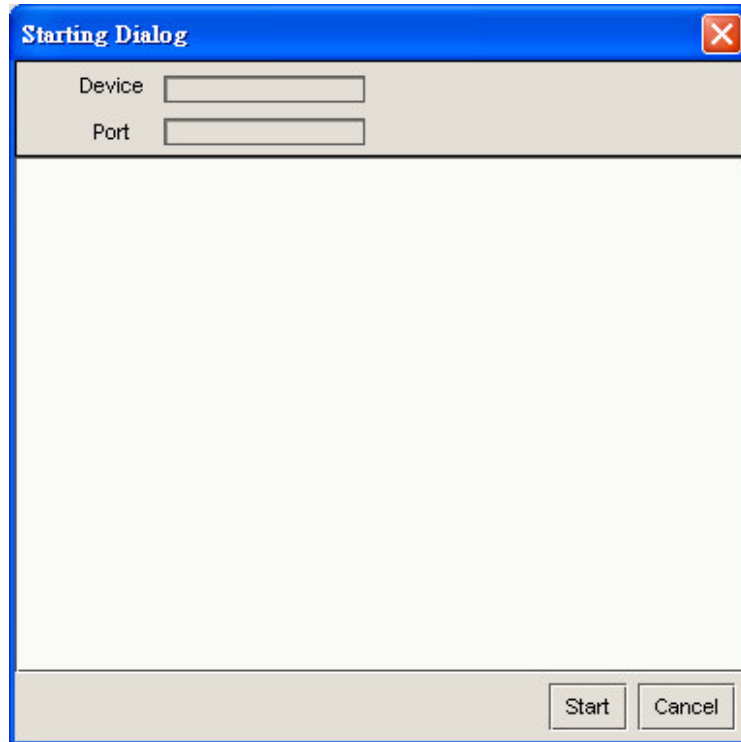

Figure 9-3. Deploy progress dialog
Step 2: Push the apply button to apply this line profile to selected profiles. The system will display the deploying dialog to show the display result as below Figure 9-3: